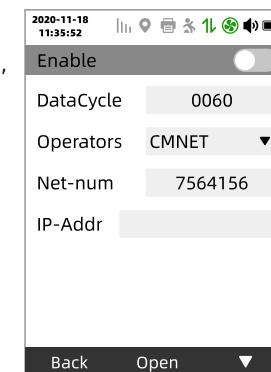

Figure 38
5.7.6.3 Mobile network: it is used for relevant operations of mobile network (as shown in Figure 38), including opening and closing of mobile network and setting of data transmission cycle.